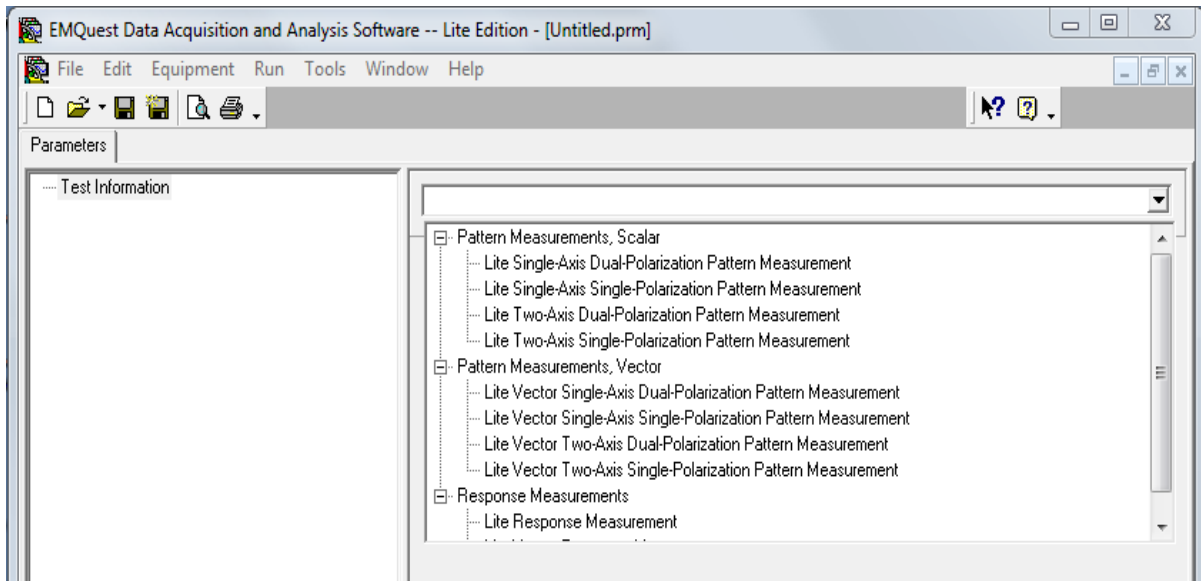

Figure 1. Select the type of measurement from the drop-down menu on the right.
3. Using the drop-down menu on the right, select the type of measurement depending on you antenna under test or AUT (see Figure 1); in this example, choose "Lite Single-Axis Single-Polarization Pattern Measurement" under "Pattern Measurements, Scalar". A new menu tree will open under "**Test Information**".